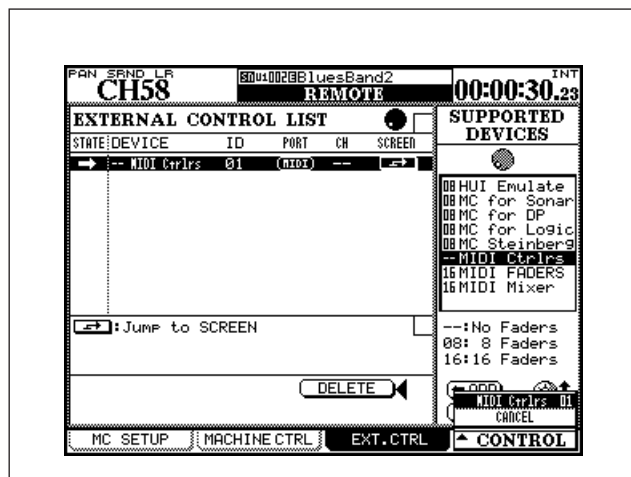

Figure 8.3: External Control
- 2 Move the cursor to the SCREEN column with the on-screen button, and press ENTER, or (as shown in Figure 8.3, *External Control*), press the POD 4 switch to bring up the popup menu
- 1 Select the MIDI FADERS option from the external control screen (Figure 8.3, *External Control*).
- 1 Select the MIDI Mixer option from the external control screen (Figure 8.3, *External Control*).